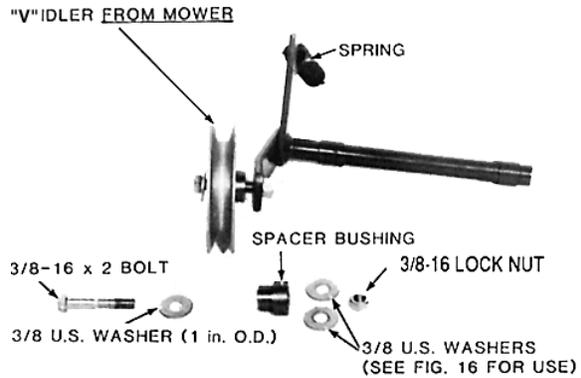

Figure 7
3. Slide a 3/8" washer, V-idler pulley, spacer bushing (with the smaller end toward the pulley), and (2) 3/8" washers onto a 3/8"-16 x 2" bolt (Fig. 7).
4. Slide the bolt into the hole in the end of the lower bracket of the mid-mount idler shaft and secure it with a 3/8"-16 locknut (Fig. 7).
5. Hook the idler spring through the hole in the upper bracket of the mid-mount idler shaft (Fig. 7).